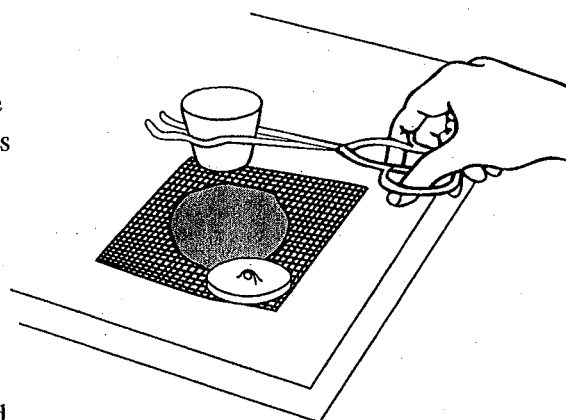

Figure 3.
10. Using tongs, remove the crucible lid and place it on a wire gauze on the bench top. With the tongs, remove the crucible from the clay triangle and place it on the wire gauze as well. (See Figure 3.)